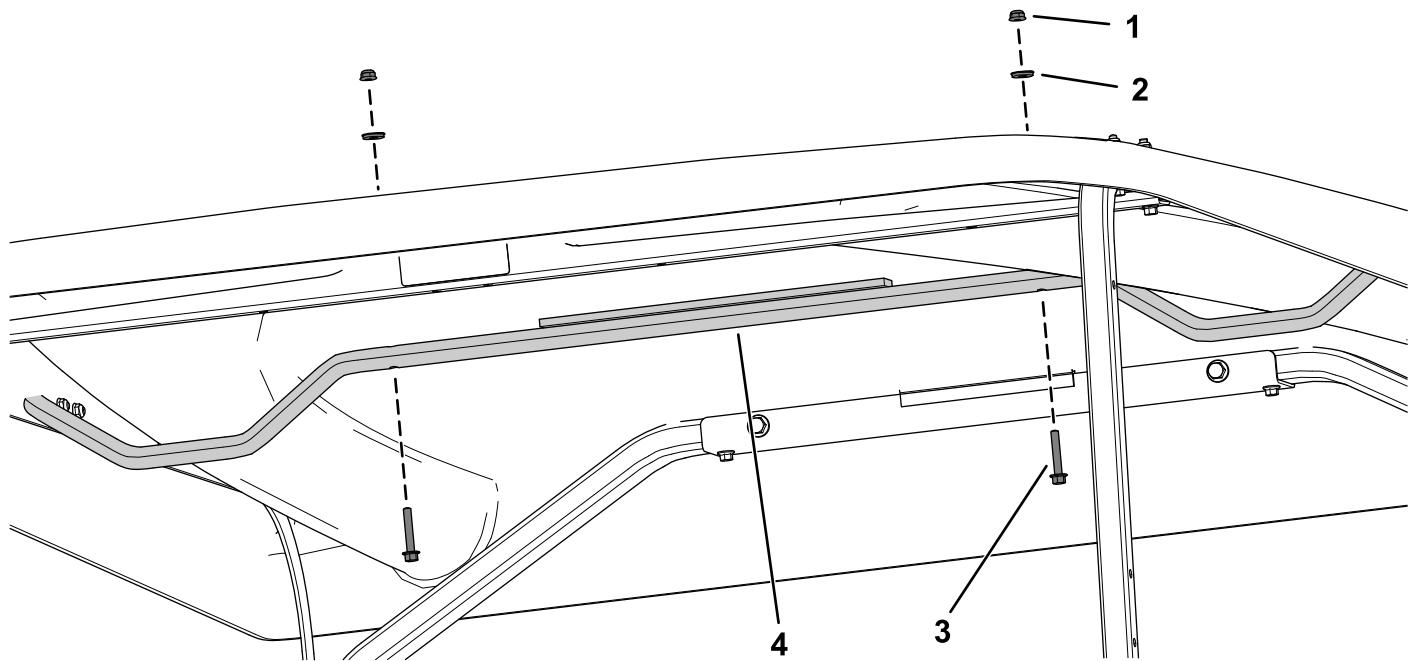

Figure 20
4. Secure the canopy support tube to the canopy using 2 flange-head bolts (1/4 x 1-1/2 inches), 2 sealing washers, and 2 locknuts (1/4 inch) as shown in Figure 20.